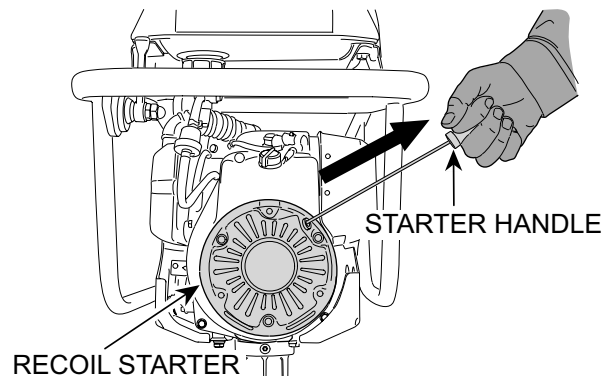

Figure 14. Recoil Starter
5. Grip the recoil starter (Figure 14) handle and pull until you feel a slight resistance. Then pull sharply and quickly. Return the recoil starter handle to the starter position before releasing.